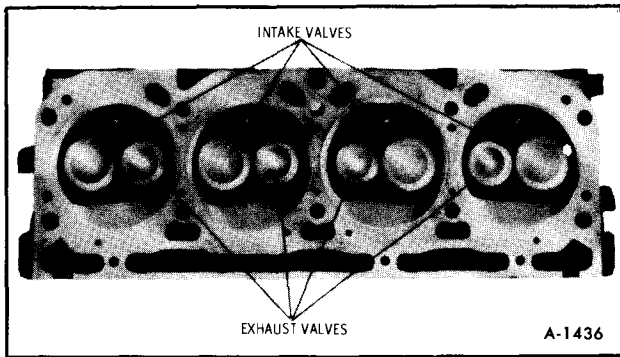

Figure 29—Valve Location
5. Remove valves. Keep valves separated so they can be installed in their original locations. See Figure 29.